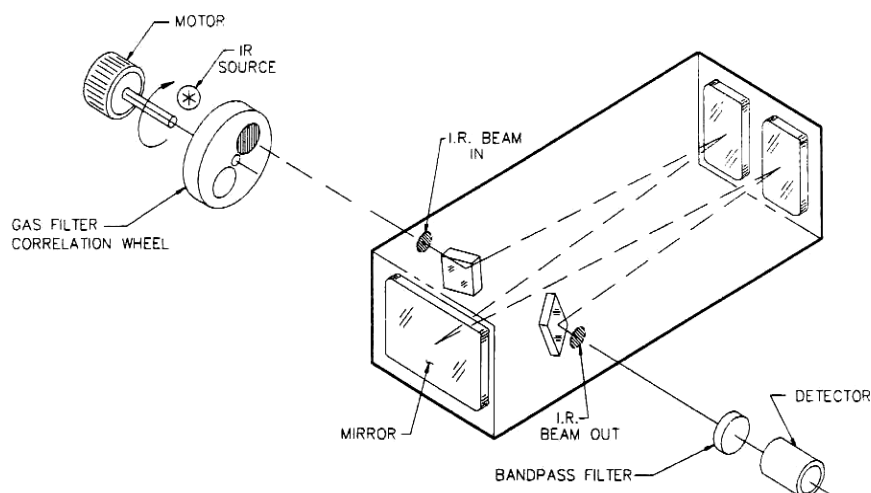

Figure 7. Illustrated Optical Path
The optics of the EC9820 analyzer include an IR source, an optical detector, a gas filter correlation wheel, measurement cell, narrow-band-pass filter, IR detector, and preamp board as described in the following paragraphs. Figure 7 illustrates the optical path.
- ❑ **Measurement Cell.** The IR next enters the multiple pass optical measurement cell where it travels a mirror folded five meter path through the sample gas before exiting the cell. See Figure 7.